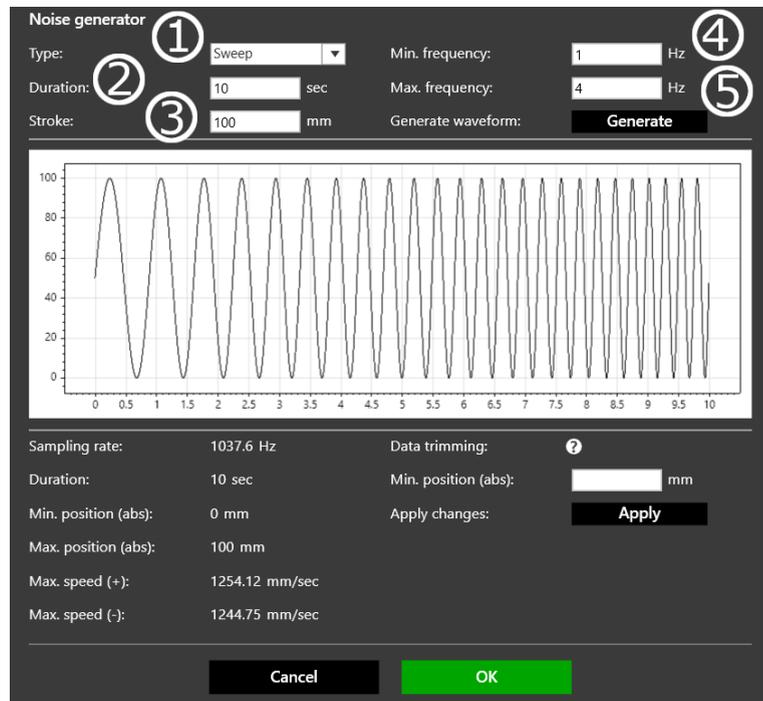

Figure 28
1. Select noise type. (Figure 28 – Step 1)
2. Enter the duration of the test. (Figure 28 – Step 2)
3. Enter the stroke of the test. (Figure 28 – Step 3)
4. Enter the minimum frequency (Figure 28 – Step 4)
5. Enter the maximum frequency (Figure 28 – Step 5)
To view graphs user has to select them in the project list, on the left side of the software window. By clicking on **Measure:** checkbox in the top right corner, user can enable some measuring tools presented in the Figure 28 below.